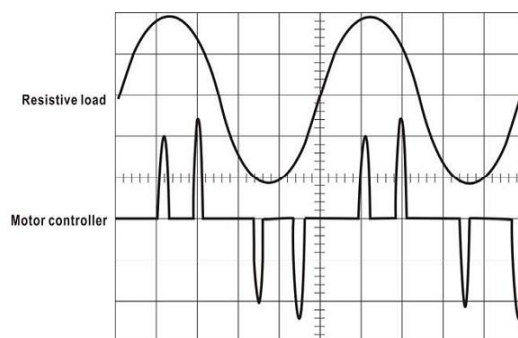

Figure 3 Typical current waveform
5. Adjust the probe channel and oscilloscope’s time base as necessary to get a clear and stable view of the signal. Set the oscilloscope input to DC volts to see both the AC and DC current; set the channel to AC to see the AC current only. The current drawn by different devices look much different than that of others. While the RMS current can only be used in low frequency current, the momentary peaks may be quite high. Figure 3 shows the difference between the line current drawn by a resistive load and a motor controller.